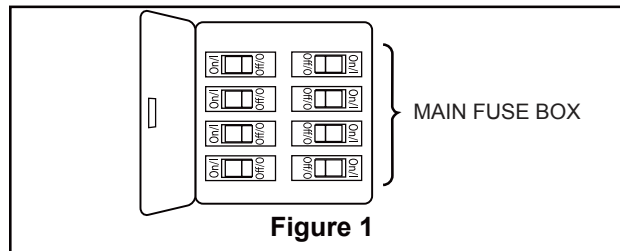
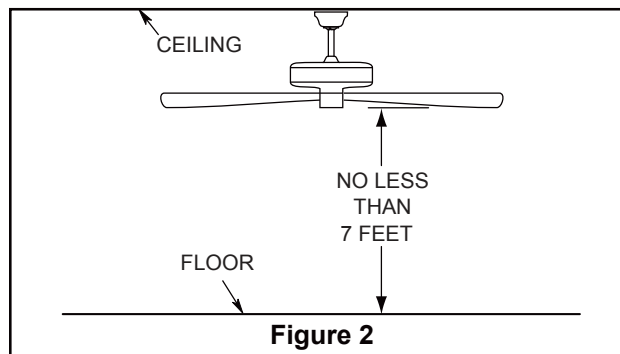
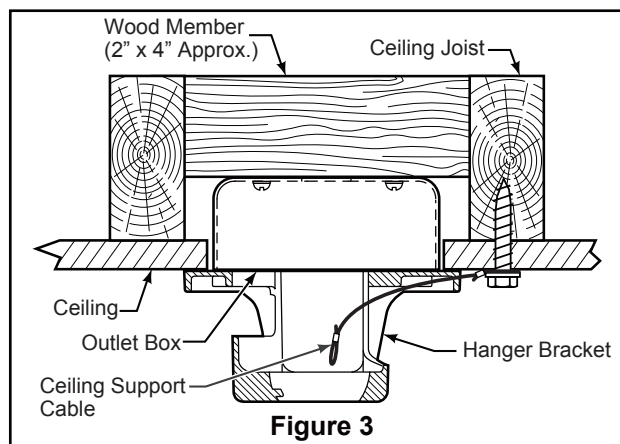

Figure 1
Figure 2
Figure 3
Your new ceiling fan will require a grounded electrical supply line of 120 volts AC, 60 HZ, 15 Amp Circuit. Electrical code requires use of a fan-rated outlet box to support the extra weight and motion associated with a ceiling fan. A fan-rated box will be labeled as such and typically supports up to a 70lb ceiling fan. Fan-Rated Outlet Boxes vary in ratings and design. Ensure the ratings of your ceiling fan outlet box meet the requirements for the ceiling fan being installed. Figure 1, Figure 2 and Figure 3 depicts different structural configurations that may be used for mounting the outlet box.
### Low profile box (Figure 1)
### Deep box (Figure 2)
### Deep box with brace (Figure 3)
1. Remove the hanger ball portion from the downrod/hanger ball assembly by loosening the set screw in the hanger ball until the ball falls freely down the downrod. Remove the pin from the downrod, then remove the hanger ball. Retain the pin and hanger ball for reinstallation in Step 6. (Figure 1)
2. Remove the hairpin clip and clevis pin from the bottom of the downrod. Retain the pin and clip for reinstallation in Step 4. (Figure 2)
3. Loosen the two set screws and nuts in the downrod support of the motor assembly. Route the black, white, blue wires and safety cable through the downrod. (Figure 3)
To avoid possible fire or shock, be sure electricity is turned off at the main fuse box before hanging. (Figure 1)
The fan must be hung with at least 7' of clearance from floor to blades. (Figure 2)
1. Securely attach the hanger bracket to the outlet box using the outlet box screws and washers supplied with the outlet box. (Figure 3)
2. Drill a 1/4" pilot hole into the building structure to prevent splitting or cracking with installation of the lag bolt. Using the 3/8" x 2" lag bolt and flat washer, attach safety cable to ceiling joist or wood structural member. The lag bolt will pass through the flat washer, safety cable loop, and into the building structure. (Figure 3)
**NOTE:** Ceiling support cable cannot be secured to outlet box only, it must be directly secured to ceiling joist or structural member using the 3/8" x 2" lag bolt and flat washer. (Figure 3)
1. To set the code on receiver unit, slide dip switches to the same positions as set on the remote. (Figure 1)
To avoid possible electrical shock, be sure electricity is turned off at the main fuse box before wiring. (Figure 2)
2. Slide the receiver into the hanger bracket before wiring as shown in figure 3.
1. Assemble canopy by rotating key slot in canopy over shoulder screw in hanger bracket, taking care not to pinch the wires. Tighten shoulder screw. Fully assemble and tighten second shoulder screw that was previously removed. (Figure 1)
2. Securely attach and tighten the canopy screw cover over the shoulder screws in the hanger bracket utilizing the keyslot twist-lock feature. (Figure 2)
2. Position the blade over the blade holder with threaded posts showing. Make sure the bottom edge of the blade is fully seated against the blade holder. With a phillips screwdriver, tighten 3/16"-24 washer head screws and fiber washers to secure the blade to the blade holder. (Figure 2)
3. Secure the blade holders to the bottom of the motor assembly using the 1/4"-20 screws from the hardware bag. (Figure 3)
2. Assemble the light plate assembly to the adaptor plate of the motor assembly using the two key slots in the light plate assembly. Replace the third screw and secure all three screws. (Figure 2)
3. Remove one of the three screws in the light plate assembly and retain the screw for later. Slightly loosen the remaining two screws. (Figure 3)
- 2.** Restore electrical power to the outlet box by turning the electricity on at the main fuse box. (Figure 2)
- 3.** To make fan operational, install 23A/12V battery (included) in hand-held remote transmitter, with fan power off. Then follow the remote code setting process. (If not used for long periods of time, remove battery to prevent damage to transmitter). Store the remote away from excessive heat or humidity. (Figure 3)